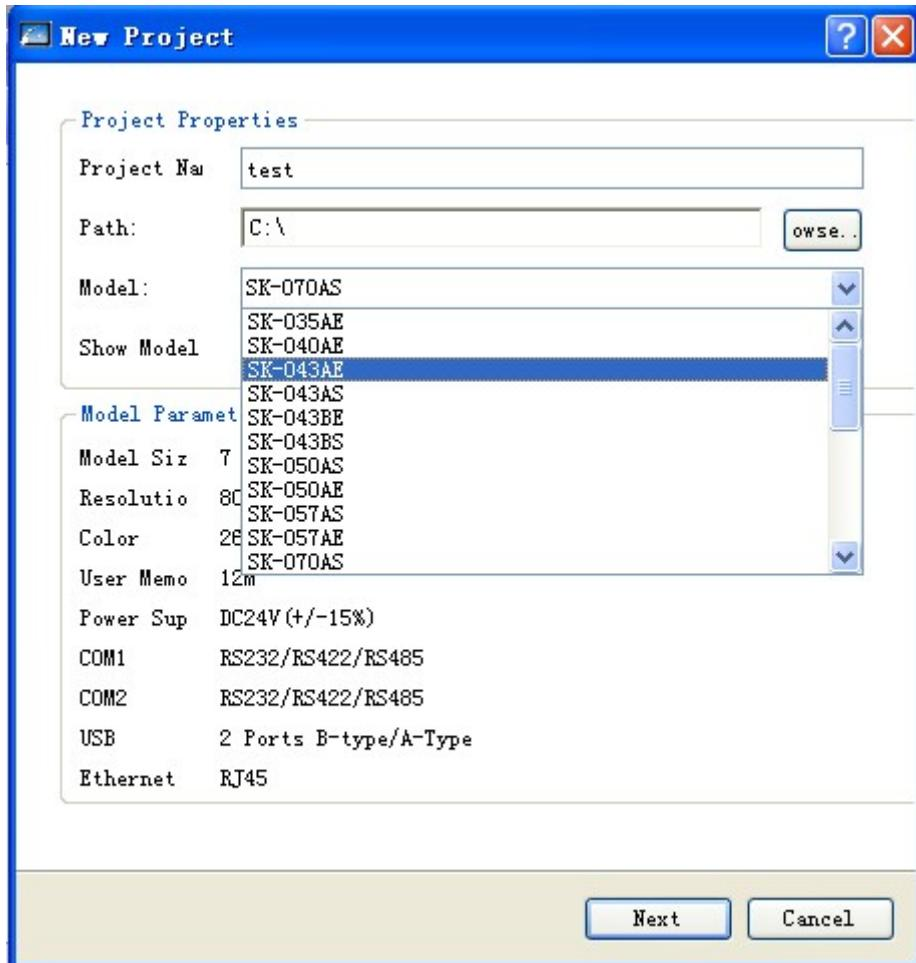

Figure 6-3 Dialing box of new project
- ✓ Select the icon for new item or "File" – "New Project" in menu bar to pop up the dialog box as shown in figure 6-3.